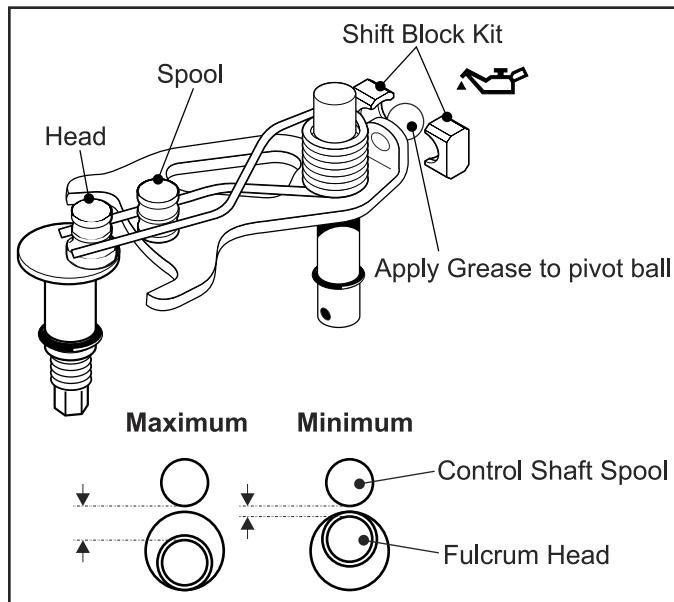

Fig. 15, Shift Blocks – Fulcrum Assembly
4. Apply an ample amount of grease to the inside surface of the Shift Blocks and to the pivot ball; then, press the Shift Blocks to the pivot ball. The grease will help retain the Shift Blocks in position during installation and alignment of the Swash Plate Assembly. See "Swash Plate Assembly" step 3 on page 24. (Fig. 15)
6. Rotate the Fulcrum until maximum distance is achieved between the Fulcrum head and the Control Shaft Spool. (Fig. 15)